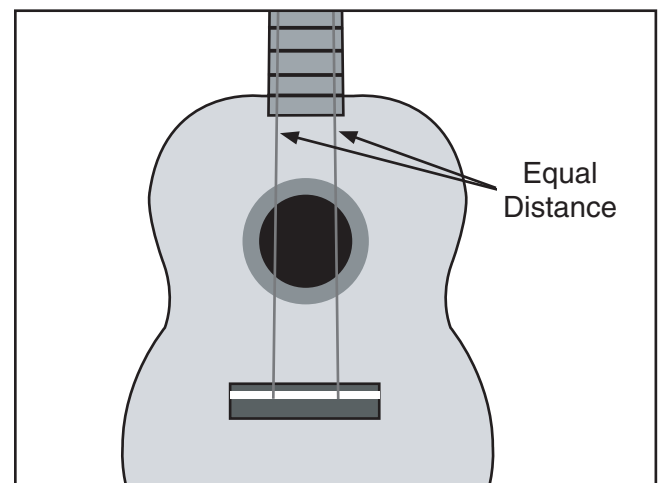

Figure 13. Positioning the bridge across the width of the ukulele.
5. Adjust the bridge side-to-side so there is an equal amount of space between the fingerboard edges and the threads (see **Figure 13**).